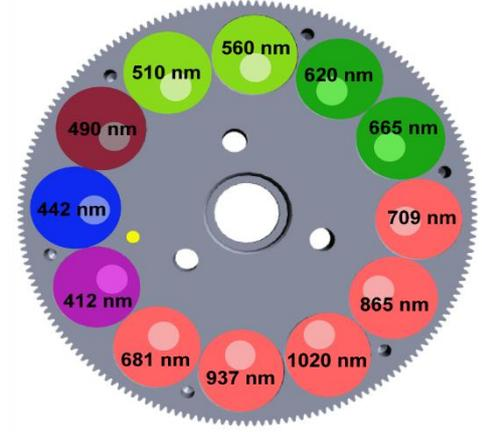

Figure 6 : Lake Color 12 filters (CE318-TV12-LC)
- **Lake Color (LC) 12 filters / CE318-TV12-LC:** It uses 412.5, 442.5, 490, 510, 560, 620, 665, 681, 709, 865, 937, 1020 nm filters (Fig.6)